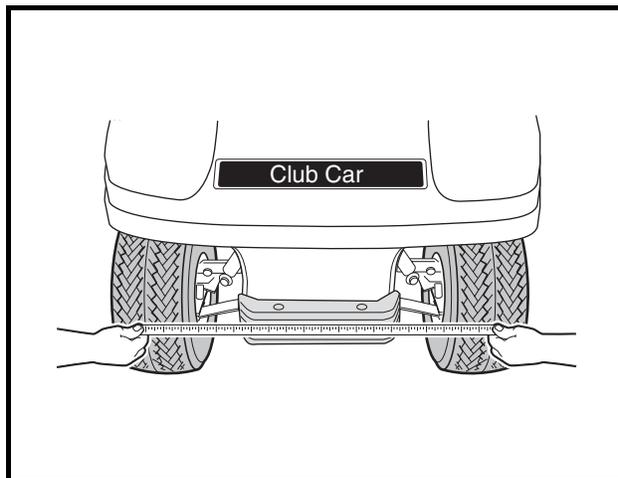

Figure 7-18 Check Toe-In
3. Measure the distance between the marks on the rear-facing surfaces of the tires, and then roll the vehicle **forward** one and one-half wheel revolutions until the marks appear on the forward facing surfaces of the tires at about the same height from the floor (**Figure 7-18, Page 7-15**).